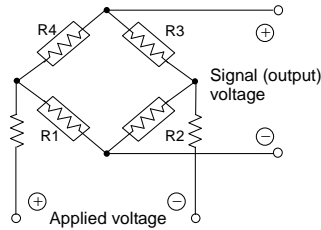
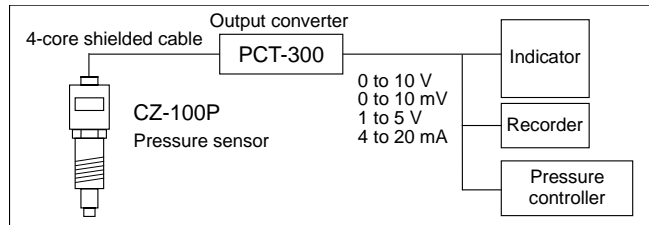

Fig. 1
Fig. 2 Block diagram of resin pressure system
as shown in the attached diagram (Fig. 1), the elastic body is in such construction that by the application of force stretching strain occurs in R1 and R3, while shrinking strain in R2 and R4 to increase the gauge resistances of R1 and R3 and to decrease those of R2 and R4. These resistance changes are detected as bridge voltage change to generate the output proportional to the force applied. The output thus generated is input to the PCT-300 output converter which can finally output the DC voltages of 0 to 10 V, 0 to 10 mV, 1 to 5 V and 4 to 20 mA from its output terminals via a 3-stage amplifier circuit.
- If the sensor is installed in the upright direction (Fig.1-A), it may be affected directly by heat flow from heater or heat source (rising current of heated air). In such a case, the temperature of the strain gauge in the sensor may exceed an allowable maximum temperature of 150 °C. In order not to exceed this limit temperature, it is necessary to keep the sensor outer cylinder surface at a temperature of less than 134 °C (Fig.2). Conduct the following treatments.
- The effect of heat flow lessens as the installing direction of the sensor changes from the slanting direction (Fig.1-B) to the horizontal direction (Fig.1-C) in this order. In this case, take measures of 1 and 2 if necessary by checking the sensor outer cylinder surface temperature. (To the relevant manufacturer: It is recommended that the sensor be installed in the horizontal or slanting direction in order to lessen the effect of heat on the strain gauge.)